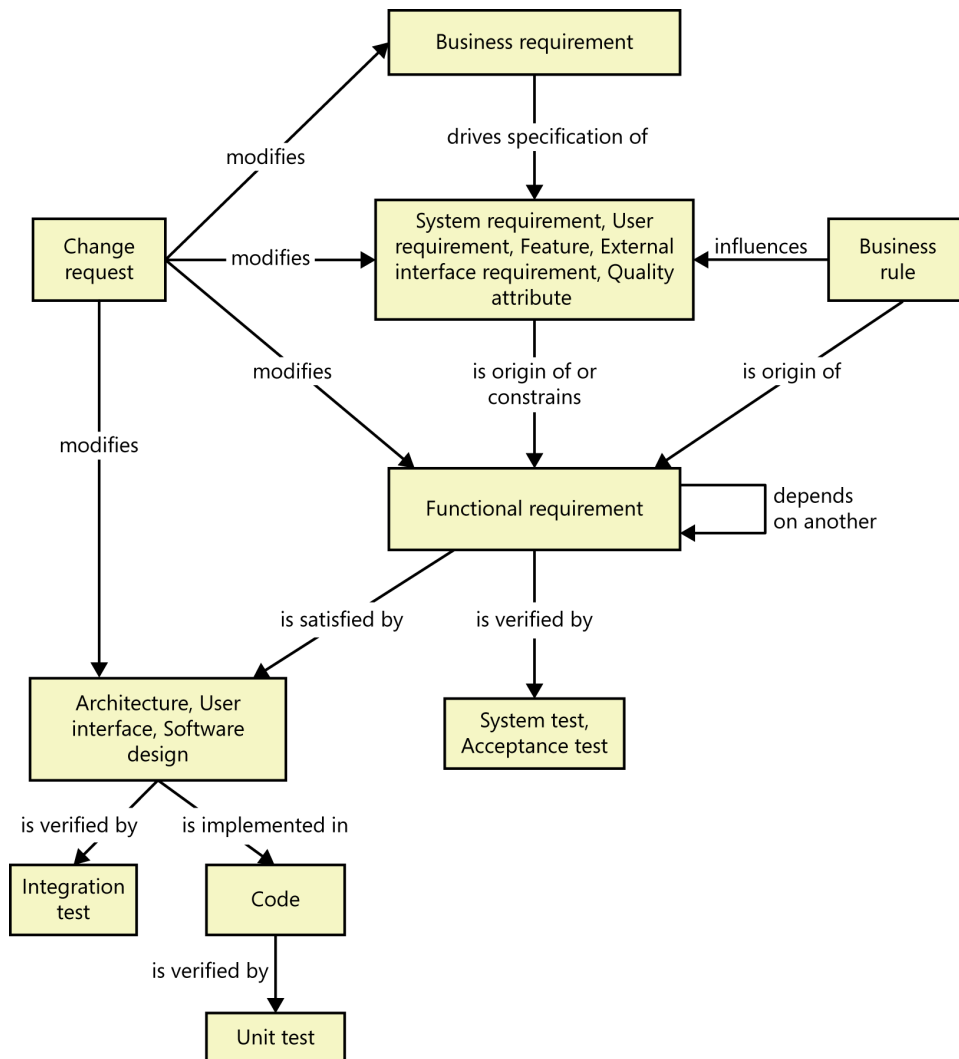

FIGURE 29-2 Some possible requirements trace links.
Figure 29-2 illustrates many kinds of traceability relationships that can be defined on a project. Of course, you don't need to define and manage all these trace link types. On many projects, you can gain most of the traceability benefits you want for just a fraction of the potential effort. Maybe you only need to trace system tests back to functional requirements or user requirements. Perform a cost-benefit analysis to decide which links will contribute to the success of your project, both in terms of development and long-term maintenance effort. Don't ask team members to spend time recording information unless you know how they can use it.
2. Select the link relationships you want to define from the possibilities shown in Figure 29-2. Don't try to do all of these at once! You'll be overwhelmed.